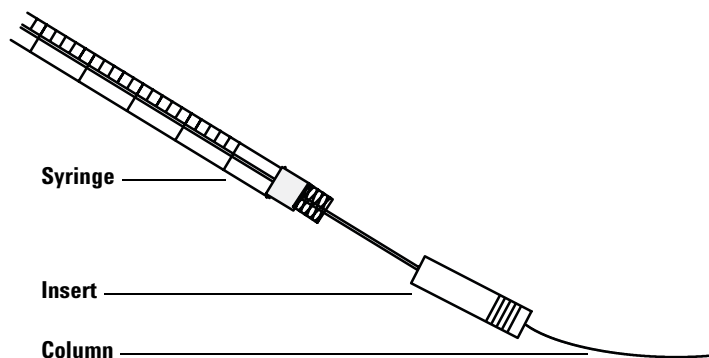

Figure 13 Testing column size
- 2 Insert the column into one end of the insert (Figure 13).